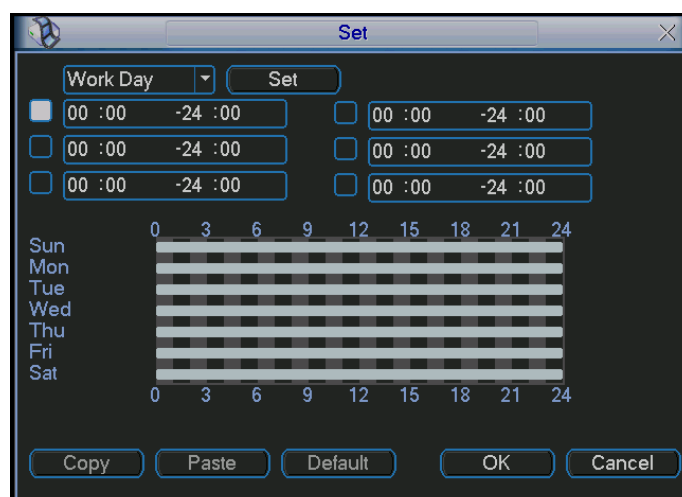
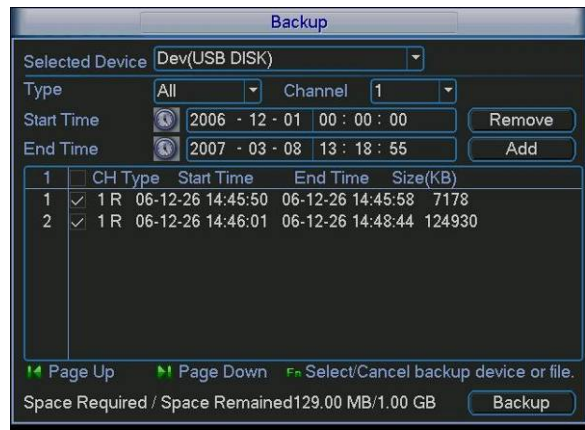
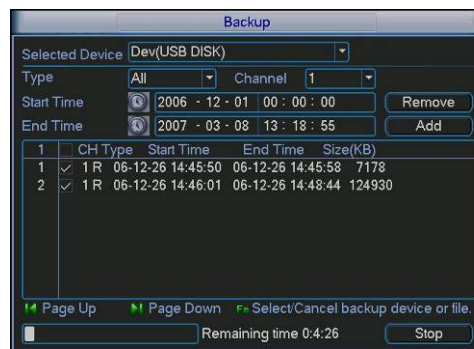

Figure 4-22
Figure 4-25
Figure 4-26
- PTZ activation: Here you can set PTZ movement when alarm occurs. Such as go to preset, tour& pattern when there is an alarm. Click “select” button, you can see an interface is shown as in Figure 4-26.
- Period: Click set button, you can see an interface is shown as in Figure 4-22. Here you can set for business day and non-business day. In Figure 4-25, click set button, you can see an interface is shown as in Figure 4-26. Here you can set your own setup for business day and non-business day.
Select backup device and then channel, file start time and end time. Click add button, system begins search. All matched files are listed below. System automatically calculates the capacity needed and remained. See Figure 4-25.
Click backup button, system begins burning. At the same time, the backup button becomes stop button. You can view the remaining time and process bar at the left bottom. See Figure 4-26.